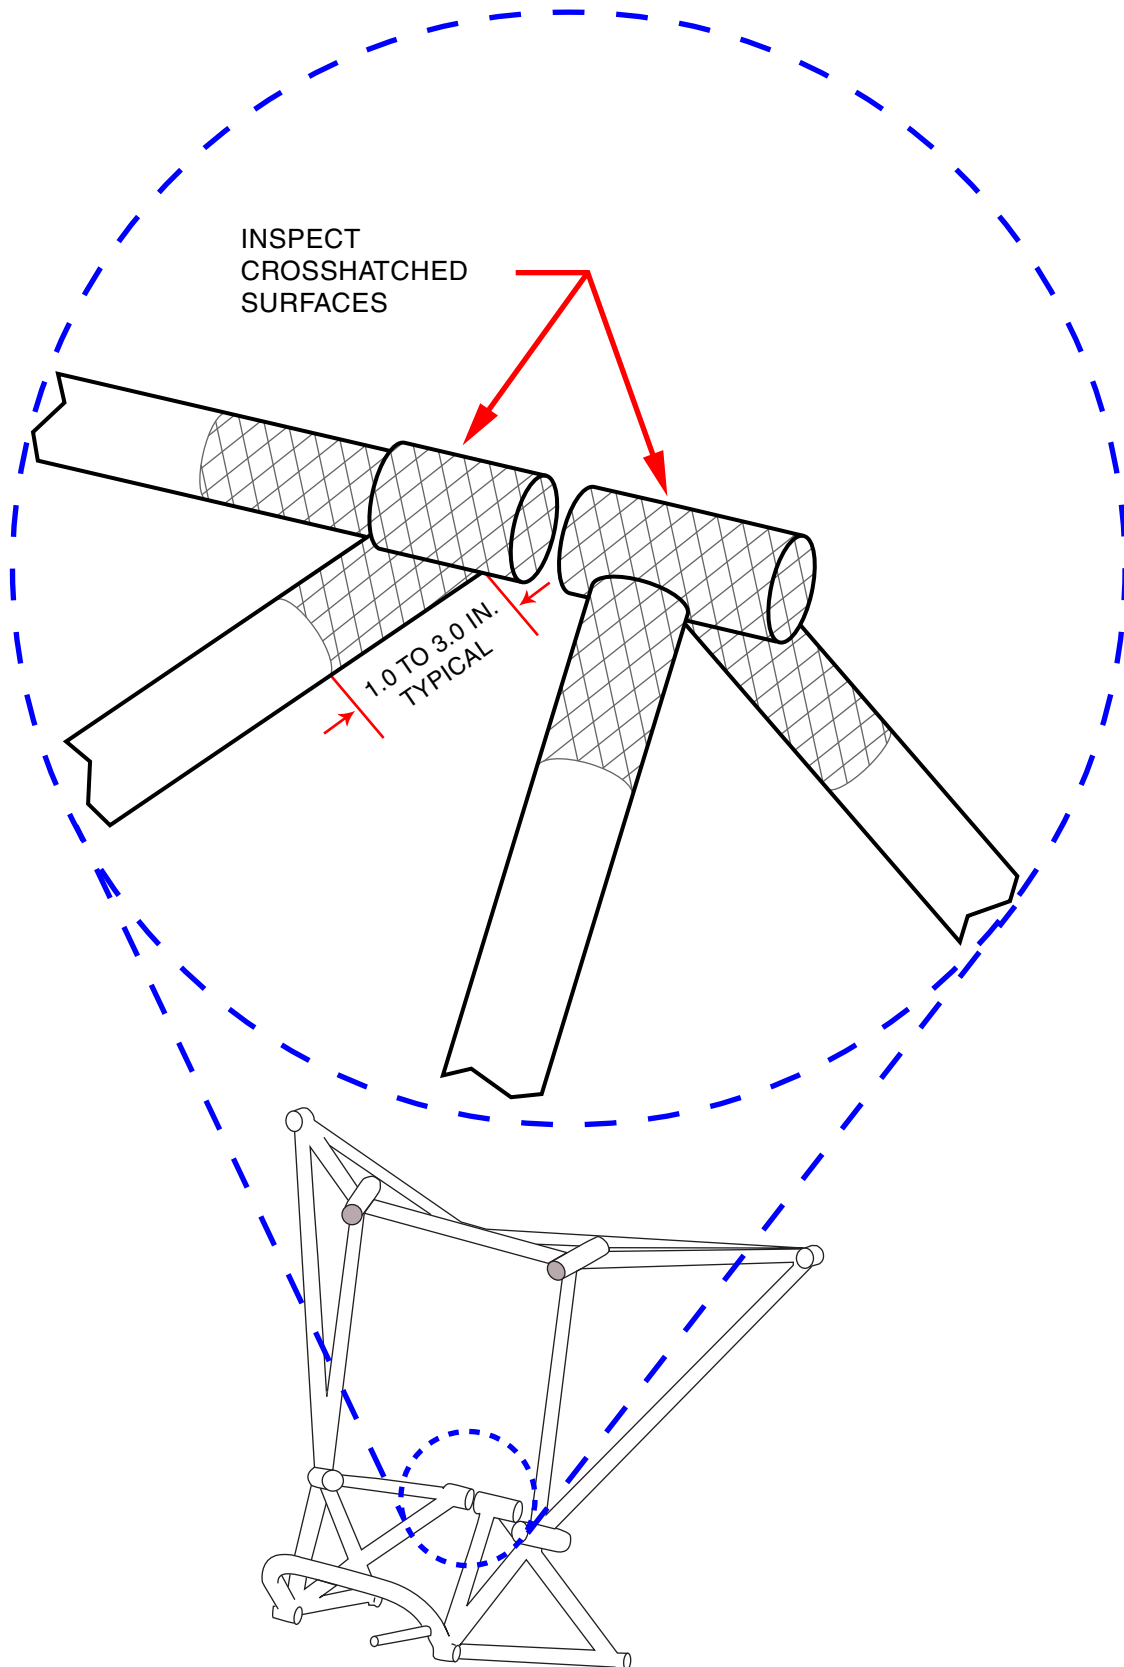

Figure 1
Cracks may develop in the area of the nose gear actuator attach feet on the engine mount (see Figure 1). This condition can occur when the nose landing gear is subjected to excessive loads due to hard landings, rough field operations, excessive speed turns, improper airplane towing (sudden, aggressive starts and stops), or other improper operations.
2. Completely remove all of the paint or Dinitrol AV8 and AV30, if the paint was previously removed and covered with Dinitrol AV8 and AV30, from the inspection area (refer to Figure 1).
3. Perform fluorescent penetrant inspection of the nose gear actuator attach feet for cracks per AC 43.13-1B, Chapter 5, Section 5. Inspect the surfaces identified in Figure 1, with specific emphasis on welded areas.